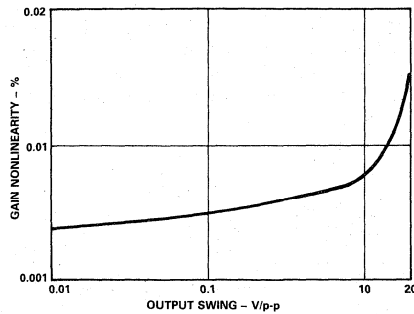

Figure 9. Typical AD295 - Gain Nonlinearity vs. Output Swing
**Gain Nonlinearity vs. Output Swing:** Linearity error is defined as the deviation of the output voltage from the best straight line and is specified as % peak-to-peak of output voltage span, e.g., nonlinearity of model AD295A operating at an output span of 10V peak-to-peak ( $\pm 5\text{V}$ ) is  $\pm 0.05\%$  or  $\pm 5\text{mV}$ . Figure 9 illustrates the gain nonlinearity for output swing up to  $\pm 10\text{V}$  (20V peak-to-peak).